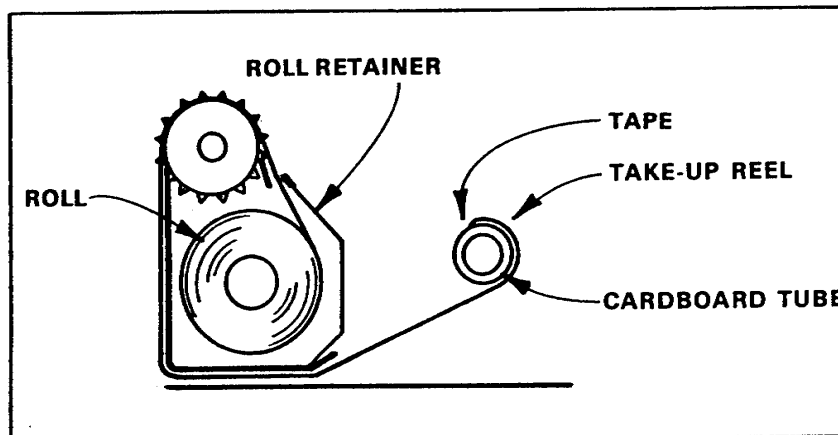

Figure 12 - Installation of chart paper
3. Install the chart paper as shown in Figure 12.